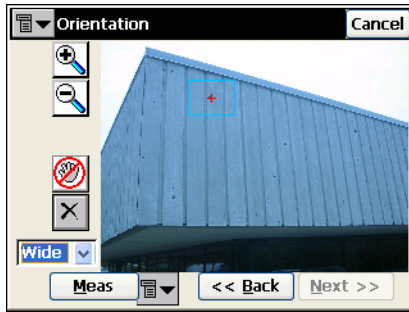

Figure 6-47. Select Orientation Point – Wide View
- *Wide View* zooms out and shows the area of the image which contains the orientation point (Figure 6-47 on page 6-39).